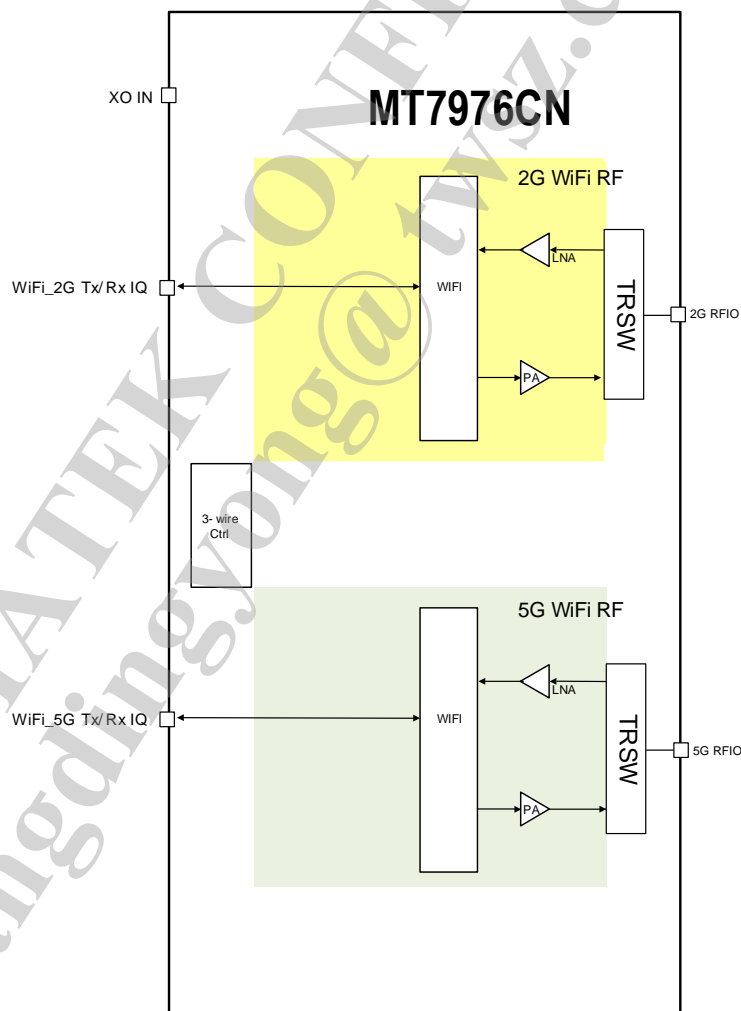

Figure 1-1. MT7976CN block diagram
MT7976CN is an IEEE WiFi 6 MIMO RF chip which contains 2.4 GHz Wi-Fi transceiver front-ends and 5 GHz Wi-Fi transceiver front-ends in a DRQFN package. Simplified block diagram and how MT7976CN is used are shown in Figure 1-1. The top control logics control each subsystem independently. Each subsystem also has dedicated LDOs. A thermal sensor and a low-speed ADC (Analog-to-Digital Converter) are provided to monitor MT7976CN's temperature variation. MT7976CN have its dedicated crystal oscillator (XO) circuit. Besides, XO circuit provides an external clock source to other chips in the platform.